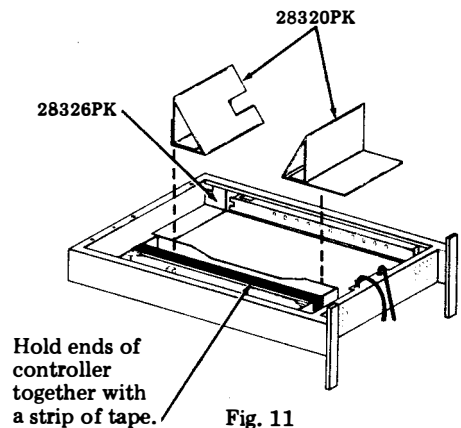

Fig. 11
4.09 Form two 28320PK corrugated details and tape so they hold their shape, if not already formed. See Fig. 11. Position the details between the controller and the power supply. Secure to the power supply and controller with tape.
4.10 Secure the ends of the controller together with a strip of tape. See Fig. 11.